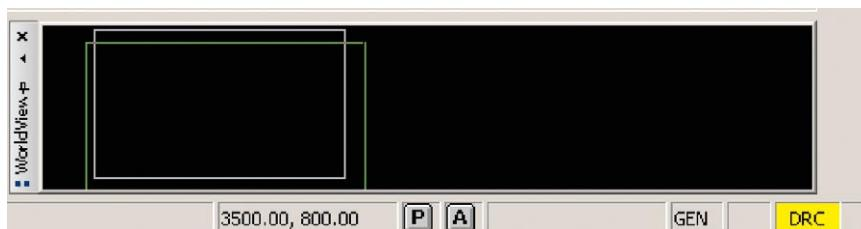

FIGURE 3-8
The WorldView shown in Figure 3-8 is located in the lower right-hand corner of the design window and gives you a bird's-eye overview of large boards. The white square represents your monitor, and the green outline represents the PCB's outline. WorldView is interactive. If you use the highlight tool and select a part or net (whether by clicking on it or by selecting it from a list using the Find pane), the object will be displayed in the WorldView. If you right click inside of it, a pop-up menu is displayed that lets you change the size and location of the view in the design area.
The Application Mode text box informs you of whether PCB Editor is in Etch Edit (EE) mode or General Edit (GE) mode (described previously). The DRC Status box lets you know at a glance if the design rule check is up to date and if any errors exist by the color of the box. If the box is any color other than green (see Figure 3-8), then you need to update the DRC and use a DRC report to locate any errors if they exist.